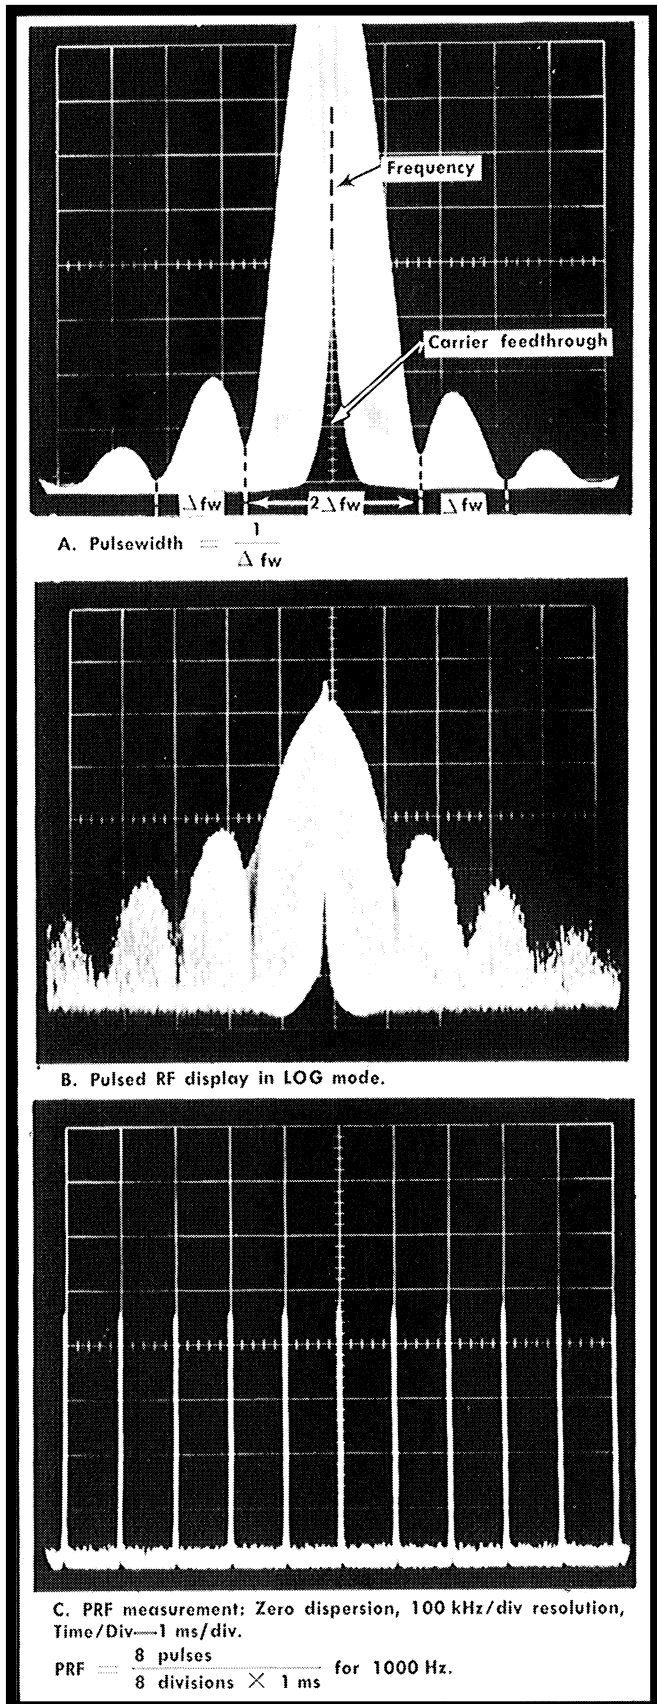

Fig. 2-27. Pulse modulation display, illustrating pulse width and PRF measurements.
3. The frequency difference between the first two minima of any spectrum is a measure of the modulating pulse width. See Fig. 2-27.
The pulse width is equal to the reciprocal of $\frac{1}{2}$ the main lobe frequency width, or the reciprocal of the side lobe frequency width. See Fig. 2-27.